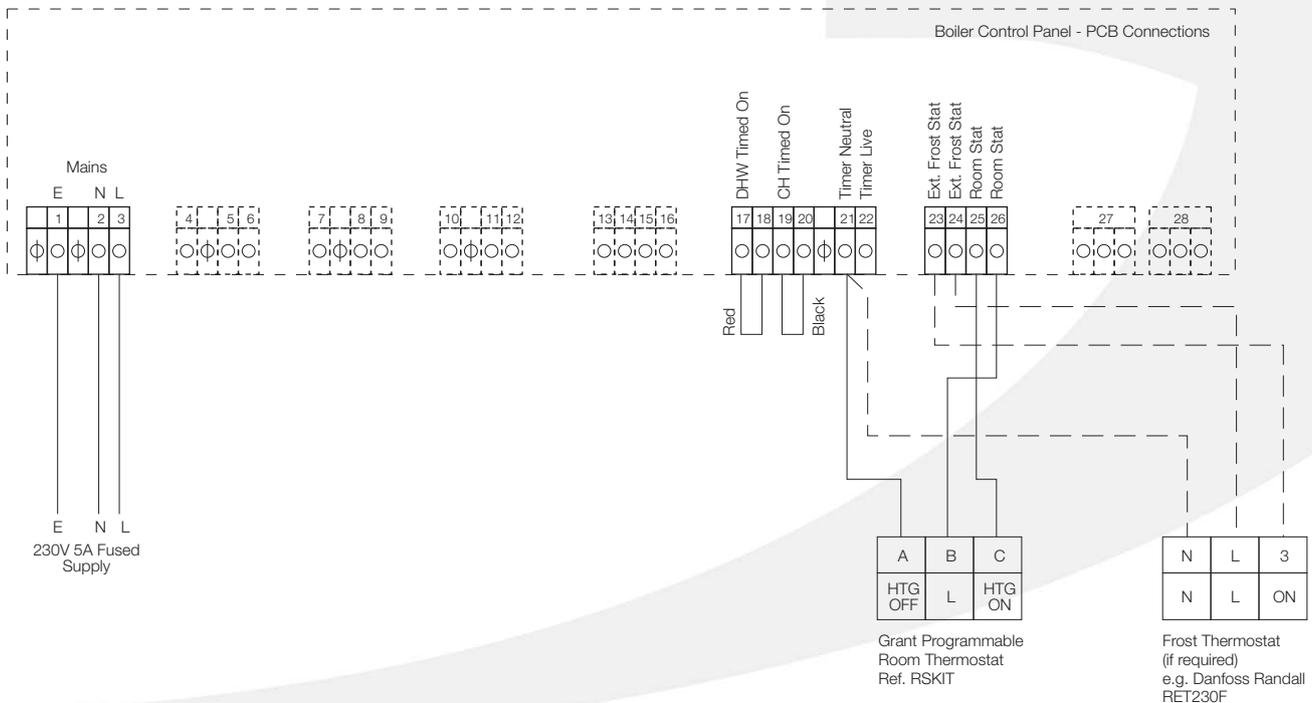
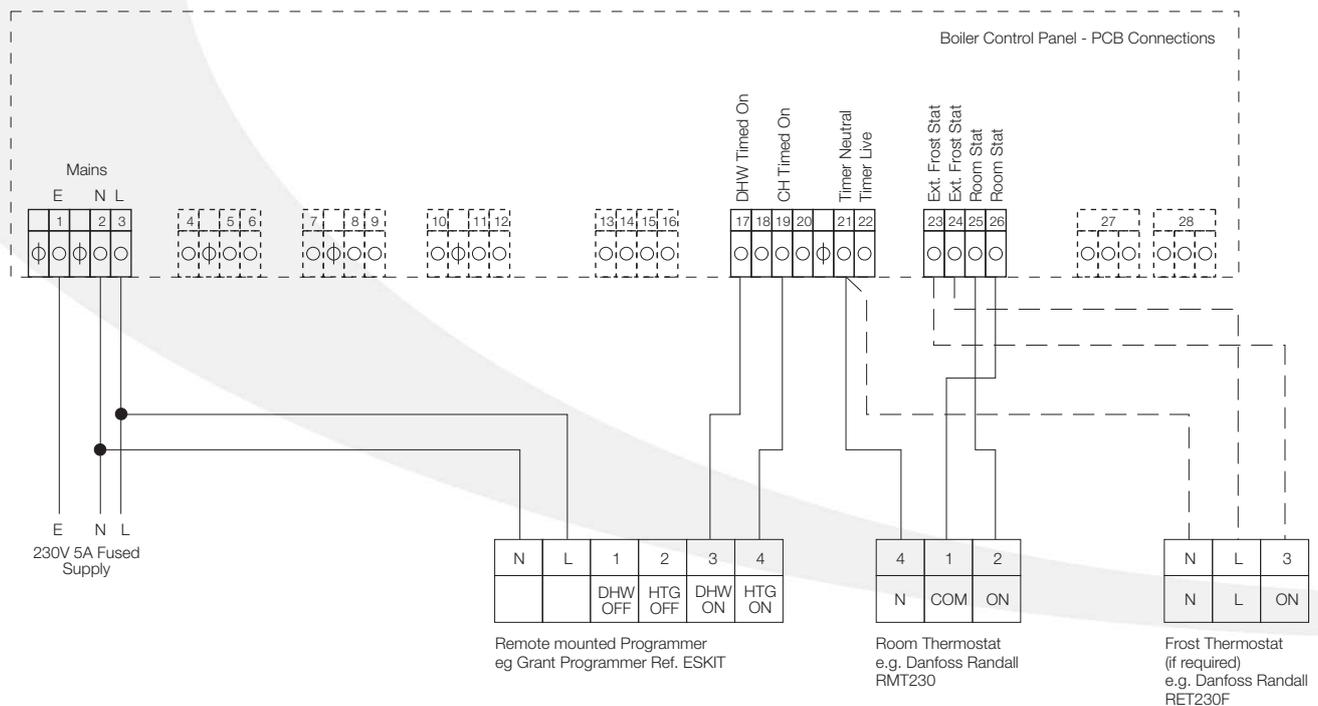

Figure 8-6: Connections for the Grant Programmable Room Thermostat (RSKIT)
Figure 8-9: Connections for the remote Grant 2-channel Programmer (ESKIT) and room thermostat
5. Refer to Figure 8-6 for the thermostat connection details.
Remove the Orange room thermostat link wire from terminals 25 & 26 on the connection block and connect the wires from the room thermostat. Refer to Figure 8-9 for further details.
2. Remove the Red link wire from terminals 17 & 18 and the Black link wire from terminals 19 & 20 on the connection block. Connect the two wires from the programmer to terminals 17 & 19. Refer to Figure 8-9.
1. Connect the wires from the frost thermostat to terminals 23 & 24 on the connection block. Refer to Figure 8-6, Figure 8-3 and Figure 8-9 for further details.